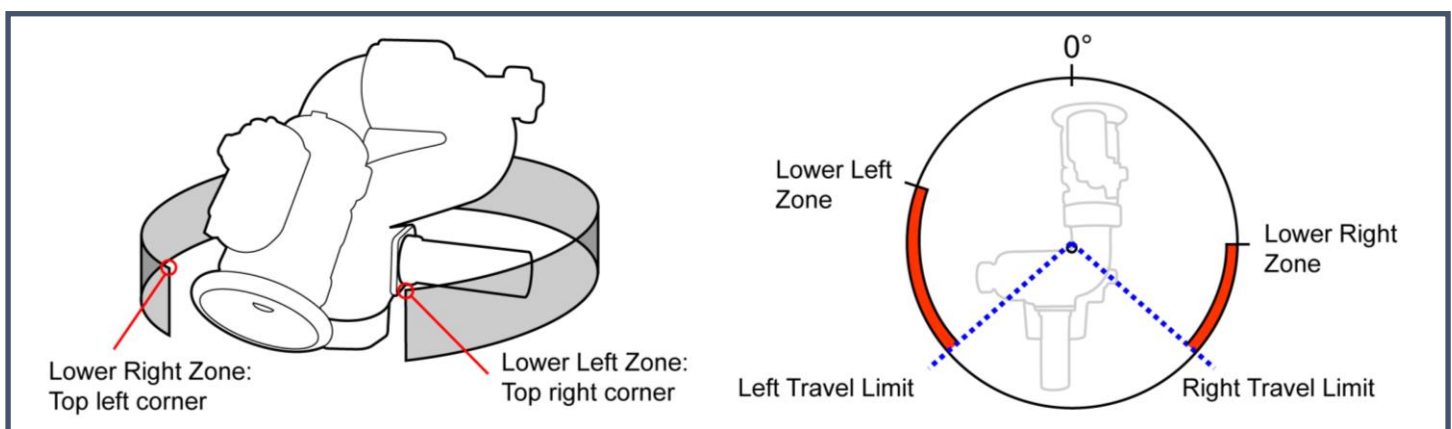

Figure 1: Keep-Out Zones
- Lower-Right Keep-Out Zone - The Right Keep-Out Zone will prevent the monitor from moving down and to the right into a specified zone (reference figure 1)
- Lower-Left Keep-Out Zone - The Left Keep-Out Zone will prevent the monitor from moving down and to the left into a specified zone (reference figure 1)